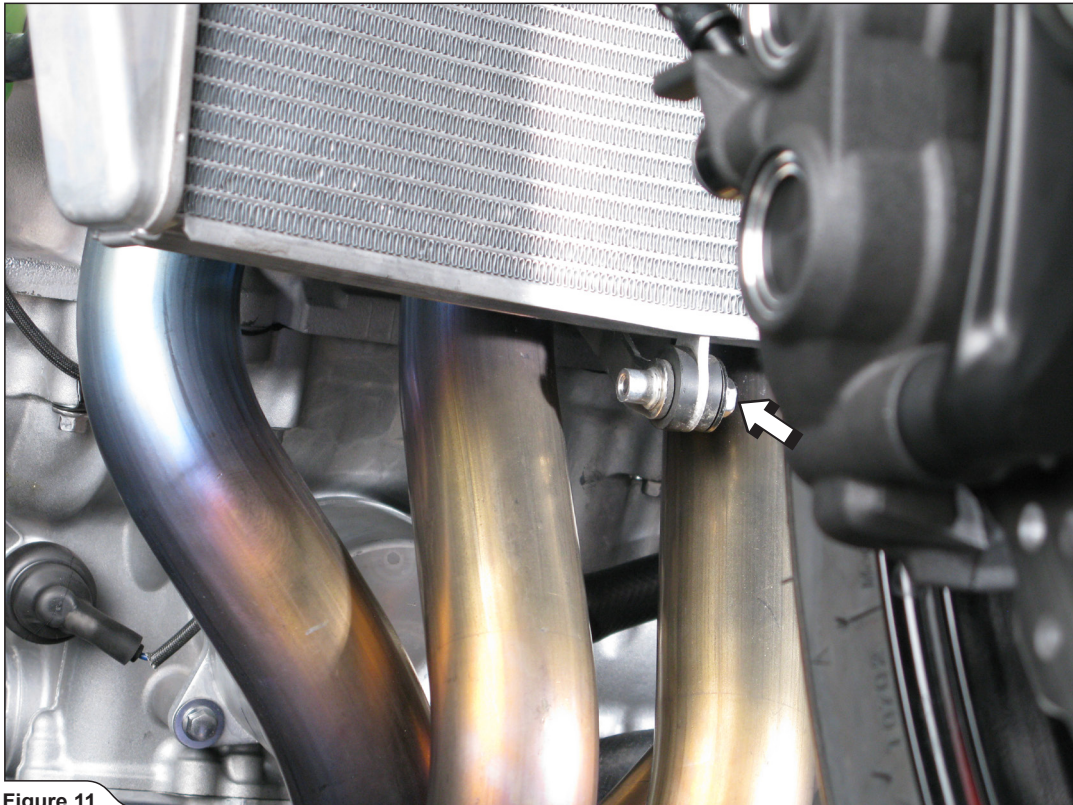

Figure 11
10. Unscrew the marked radiator's bracket bolt and partially shift the radiator out of the way (**Figure 11**).